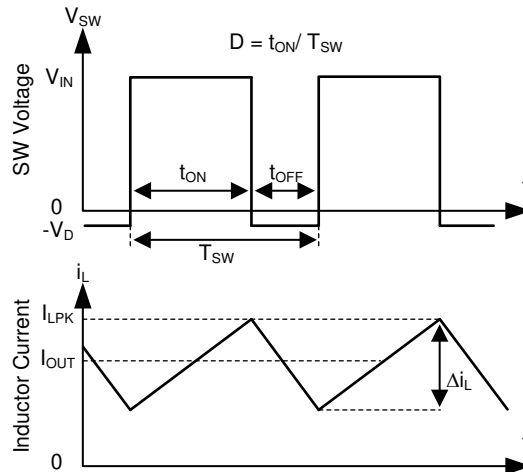

图 10-1. SW Node and Inductor Current Waveforms in Continuous Conduction Mode (CCM)
The following operating description of the TPS2583xA-Q1 will refer to the *Functional Block Diagram* and to the waveforms in Figure 10-1. TPS2583xA-Q1 is a step-down synchronous buck regulator with integrated high-side (HS) and low-side (LS) switches (synchronous rectifier). The TPS2583xA-Q1 supplies a regulated output voltage by turning on the HS and LS NMOS switches with controlled duty cycle. During high-side switch ON time, the SW pin voltage swings up to approximately V_{IN} , and the inductor current i_L increase with linear slope $(V_{IN} - V_{OUT}) / L$. When the HS switch is turned off by the control logic, the LS switch is turned on after an anti-shoot-through dead time. Inductor current discharges through the LS switch with a slope of $-V_{OUT} / L$. The control parameter of a buck converter is defined as Duty Cycle $D = t_{ON} / T_{SW}$, where t_{ON} is the high-side switch ON time and T_{SW} is the switching period. The regulator control loop maintains a constant output voltage by adjusting the duty cycle D . In an ideal buck converter, where losses are ignored, D is proportional to the output voltage and inversely proportional to the input voltage: $D = V_{OUT} / V_{IN}$.
The TPS2583xA-Q1 is internally compensated as shown in 图 10-1. The internal compensation is designed such that the loop response is stable over the specified operating frequency and output voltage range. The TPS2583x-Q1 is optimized for transient response over the range $300 \text{ kHz} \leq f_{sw} \leq 2300 \text{ kHz}$.